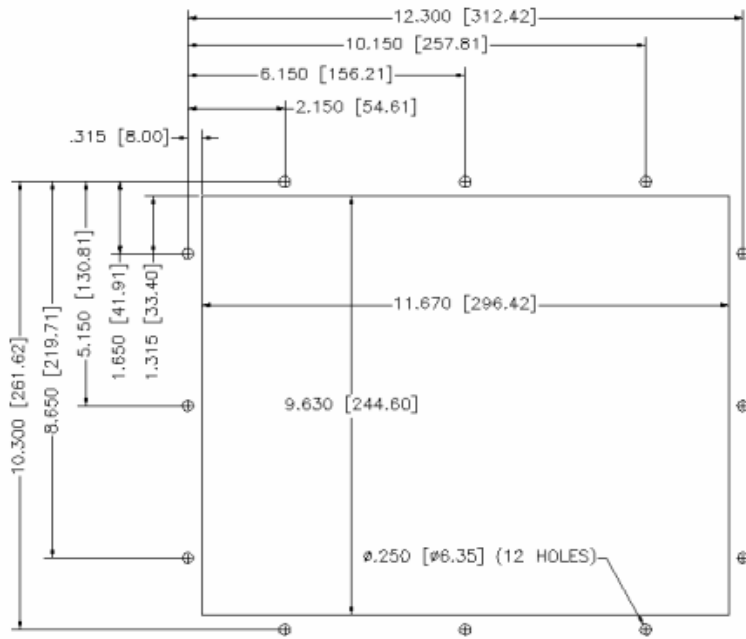
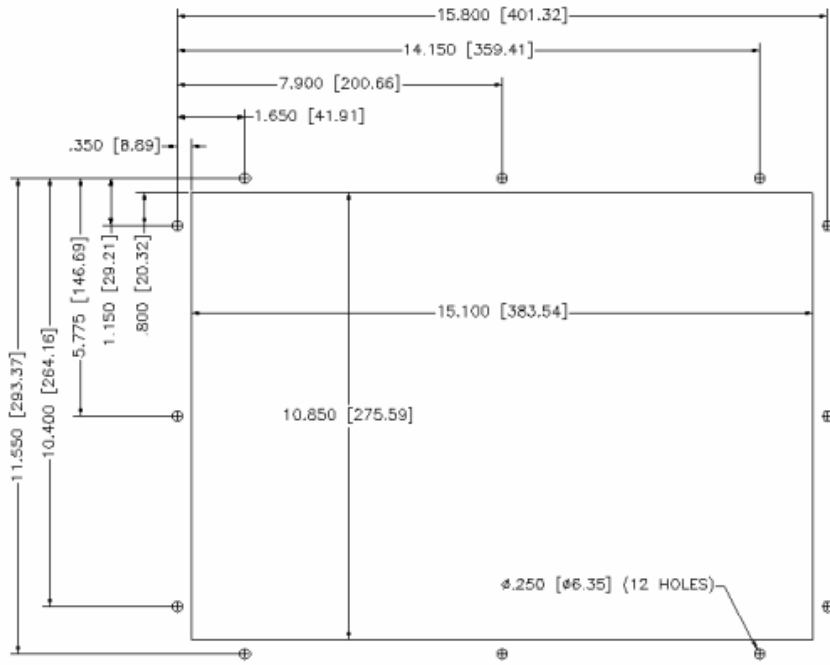
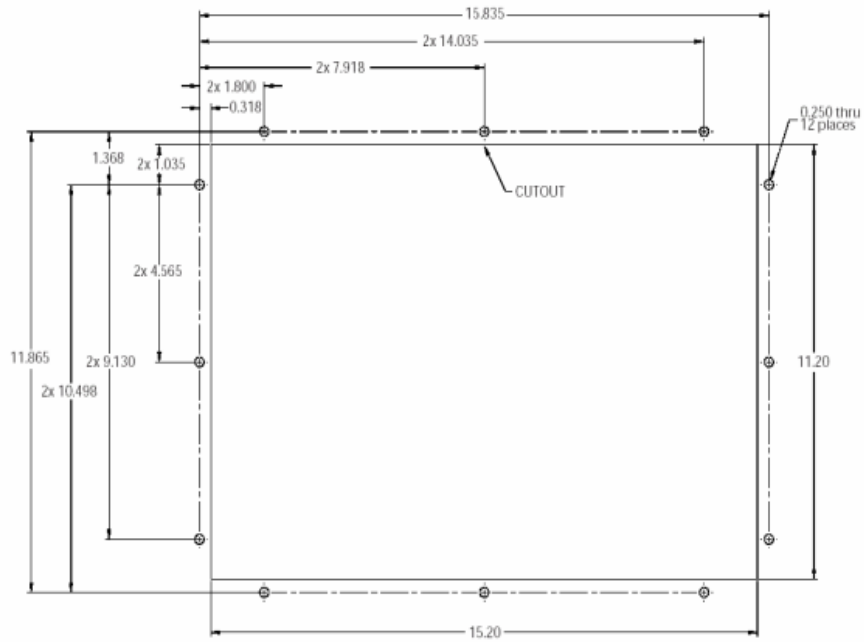
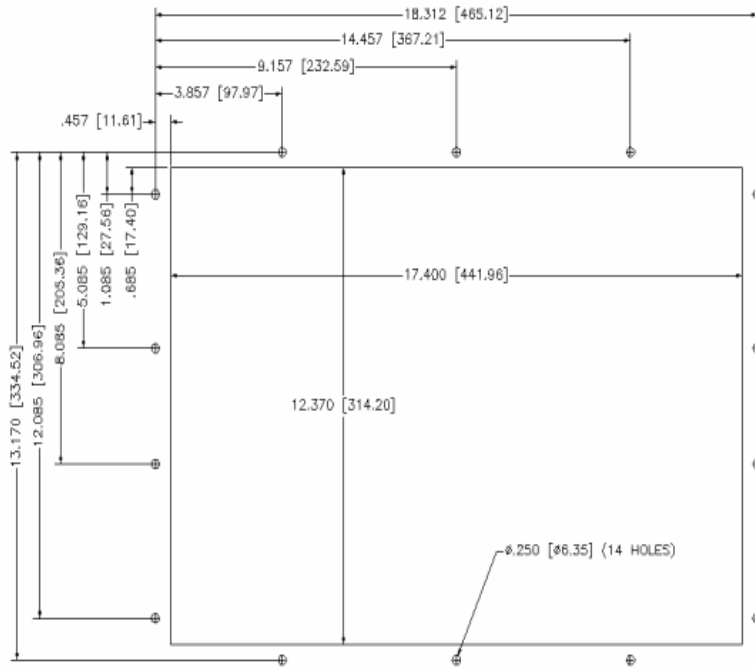

Figure 2-1. 4612T System Cutout Dimensions (inches [mm])
Figure 2-2. 4612KPM(T) System Cutout Dimensions (inches [mm])
Figure 2-3. 4615T System Cutout Dimensions (inches [mm])
Figure 2-4. 4615KPM(T) System Cutout Dimensions (inches [mm])
2. Create a cutout in the enclosure (see Figure 2-1, Figure 2-2, Figure 2-3, and Figure 2-4 in *System Cutout Dimensions*).